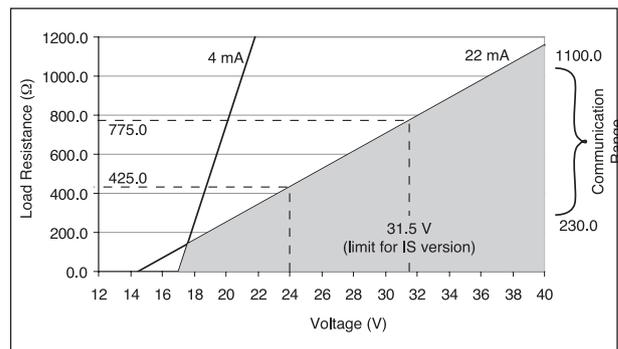

Fig.2 HART® supply voltage/ load diagram
- Signal** : Maximum load 425 Ω . (see fig. 2)